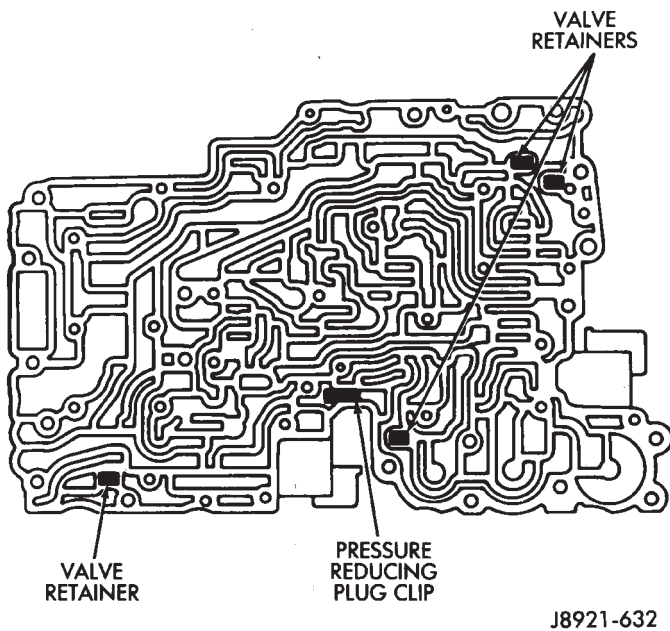

Fig. 2 Valve Retainer And Clip Location
(2) Remove oil strainers (Fig. 2).
(3) Note or mark position of valve retainers and pressure reducing plug clip for assembly reference (Fig. 2). Do not remove the retainers at this time.